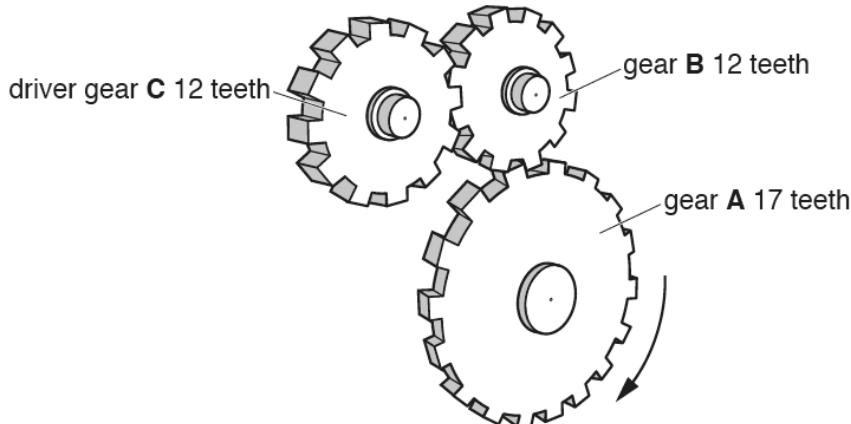

Fig. 4
4 Fig. 4 shows a gear train.
(a) (i) State which gear, A, B or C, in Fig. 4 is the idler gear.
- (iii) Calculate the velocity ratio of the gear train in Fig. 4.